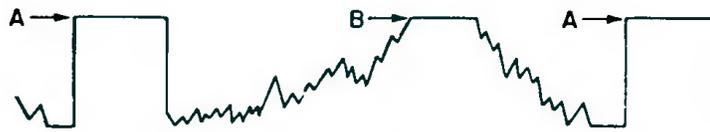

Figure 5
After detection, a video signal normally appears as shown in Figure 4. If the signal is clipped in an I.F. stage it will look like Figure 5. Now the horizontal oscillator will try to synchronize both on the blanking signal (A) and on the very black portions of the video (B). This results in pulling or snaking of the picture.